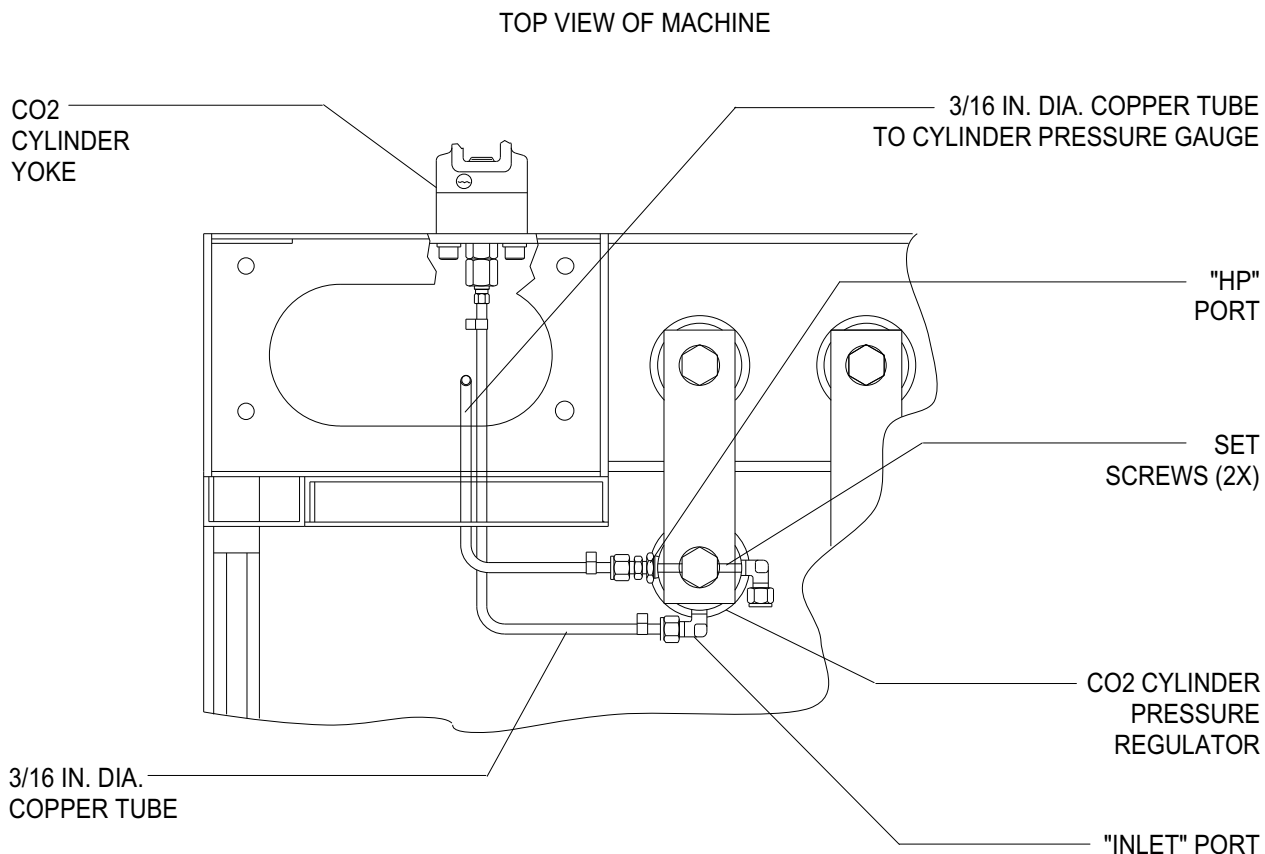

Figure 7: CO₂ CYLINDER REGULATOR MOUNTING AND H.P. CONNECTIONS
60. Position the CO₂ cylinder pressure regulator assembly (consisting of P/Ns 4103591, 4109415, 4102906 x2, 4109409, and 4109401) as shown in Figure 7, with the Inlet marking toward the front of the machine.